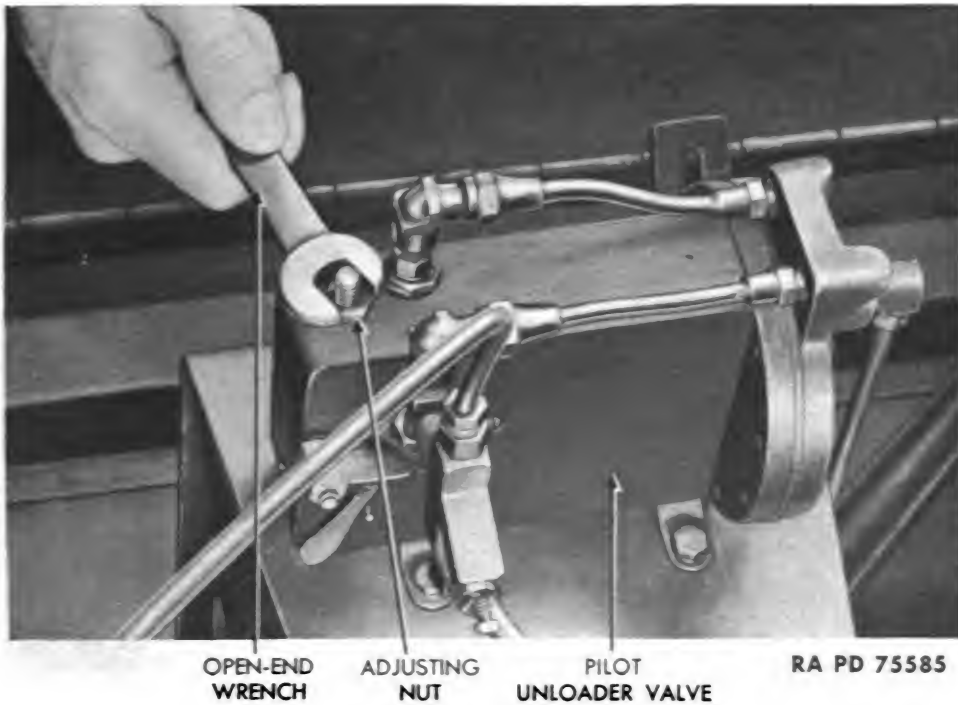

Figure 13 — Making Pressure Adjustment on Compressor Unloader Pilot Valve
(10) **PRESSURE ADJUSTMENT OF UNLOADER PILOT VALVE** (fig. 13). Normally, the unloader pilot switch needs no adjustment. It is set to unload at 100 pounds per square inch pressure, and to load at 88 pounds per square inch pressure. If for any reason the pressure must be changed, proceed as follows: Turn adjusting nut on top of switch clockwise to raise and counterclockwise to lower both unloading and loading pressures.